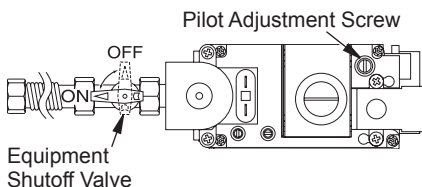

Figure 48 - Turning Equipment Shutoff Valve to the OFF Position
5. Turn equipment shutoff valve clockwise to the OFF position (see Figure 48, page 27). Do not force.
- Turn the adjustment screw marked PILOT clockwise to decrease or counterclockwise to increase the flame to proper size (see Figure 48, page 27). Do not remove the adjustment screw.